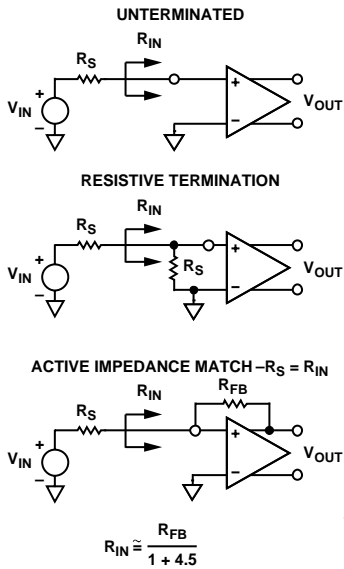
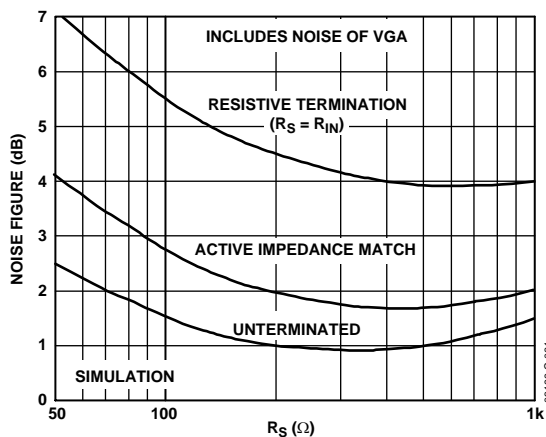
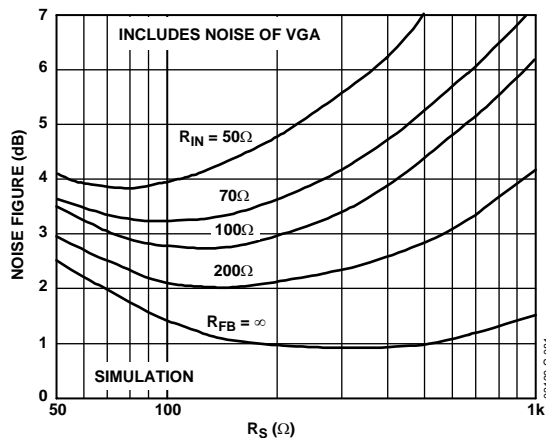

Figure 60. Input Configurations
Figure 61. Noise Figure vs. R_S for Resistive, Active Matched, and Unterminated Inputs
Figure 62. Noise Figure vs. R_S for Various Fixed Values of R_{IN} , Actively Matched
The input-referred voltage noise sets an important limit on system performance. The short-circuit input voltage noise of the LNA is 0.74 nV/ $\sqrt{\text{Hz}}$ or 0.82 nV/ $\sqrt{\text{Hz}}$ (at maximum gain), including the VGA noise. The open-circuit current noise is 2.5 pA/ $\sqrt{\text{Hz}}$. These measurements, taken without a feedback resistor, provide the basis for calculating the input noise and noise figure performance of the configurations in Figure 60. Figure 61 and Figure 62 are simulations extracted from these results, and the 4.1 dB NF measurement with the input actively matched to a 50 Ω source. Unterminated ($R_{FB} = \infty$) operation exhibits the lowest equivalent input noise and noise figure. Figure 61 shows the noise figure versus source resistance, rising at low R_S , where the LNA voltage noise is large compared to the source noise, and again at high R_S due to current noise. The VGA's input-referred voltage noise of 2.7 nV/ $\sqrt{\text{Hz}}$ is included in all of the curves.
The primary purpose of input impedance matching is to improve the system transient response. With resistive termination, the input noise increases due to the thermal noise of the matching resistor and the increased contribution of the LNA's input voltage noise generator. With active impedance matching, however, the contributions of both are smaller than they would be for resistive termination by a factor of $1/(1 + LNA\ Gain)$. Figure 61 shows their relative noise figure (NF) performance. In this graph, the input impedance has been swept with R_S to preserve the match at each point. The noise figures for a source impedance of $50\ \Omega$ are 7.1 dB, 4.1 dB, and 2.5 dB, respectively, for the resistive, active, and unterminated configurations. The noise figures for $200\ \Omega$ are 4.6 dB, 2.0 dB, and 1.0 dB, respectively.
Figure 62 is a plot of the NF versus R_S for various values of R_{IN} , which is helpful for design purposes. The plateau in the NF for actively matched inputs mitigates source impedance variations. For comparison purposes, a preamp with a gain of 19 dB and noise spectral density of a $1.0\ nV/\sqrt{Hz}$, combined with a VGA with $3.75\ nV/\sqrt{Hz}$, would yield a noise figure degradation of approximately 1.5 dB (for most input impedances), significantly worse than the AD8332 performance.